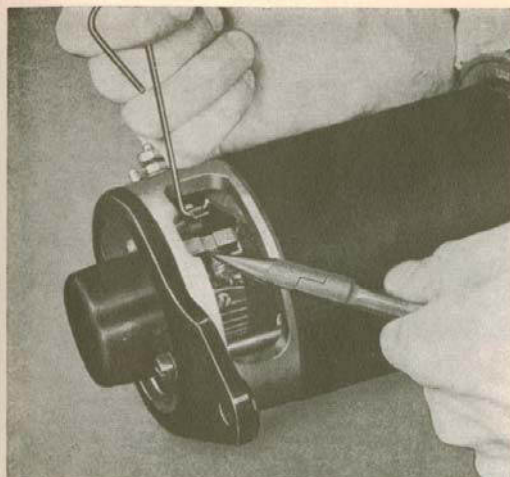

Fig. 10-34. Removing the brushes
2. Disconnect the brush leads. Lift up the pressure arms or springs for the brushes with a hook and pull up the brushes, see Fig. 10-34.
Remove the brushes by undoing the connections on the brush holders, lifting up the brush springs and pulling up the brush with a pair of pliers, see Fig. 10-34. If the commutator is scratched or unevenly worn, the generator must be disassembled and the commutator lathe-turned. See further under "Disassembling, inspection and assembling". Place in the correct type brushes and fit the protecting band. If there are test devices available, it is wise to test the generator before refitting it in the car. See further under "Testing the generator".